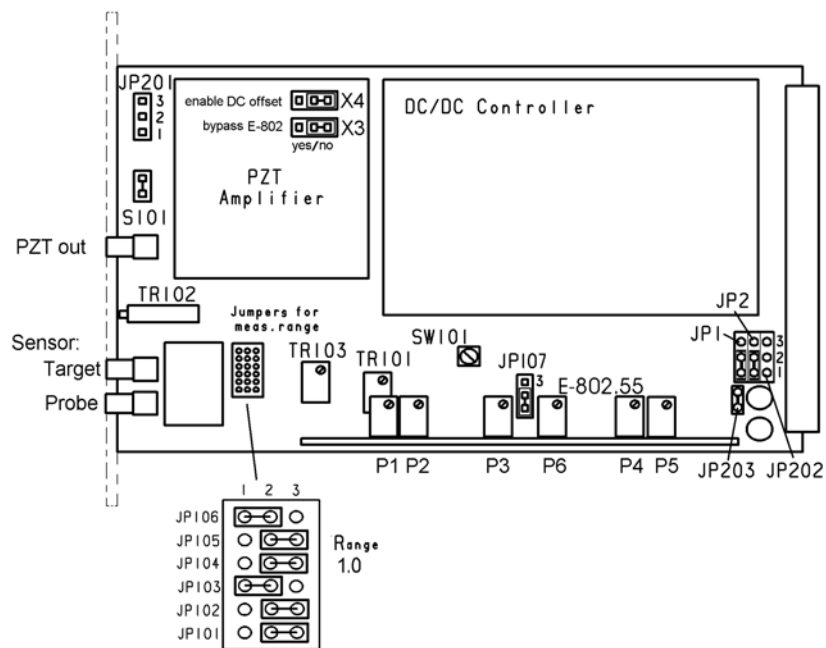

Fig. 4: E-610.CO component layout, “top” view (through cover plate)
- 7 Scan the control input voltage from 0 V to +10 V and read the PZT displacement using the external gauge. With +10 V the external gauge should show the PZT at about nominal expansion. Adjust with the sensor gain trim potentiometer TR101 (see Fig. 4). Sensor gain is now close enough to allow switching servo ON.
The jumper group is shown as arranged on the main board (see component map, Fig. 4). Units are delivered set as required for the attached stage. With no information on the stage, PI sets units to 1.0.
Servo-control is implemented in a plug-in submodule, the E-802. It should not be necessary to remove or replace the submodule, but if you ever do so, note the submodule component side direction, as shown in Fig. 4.